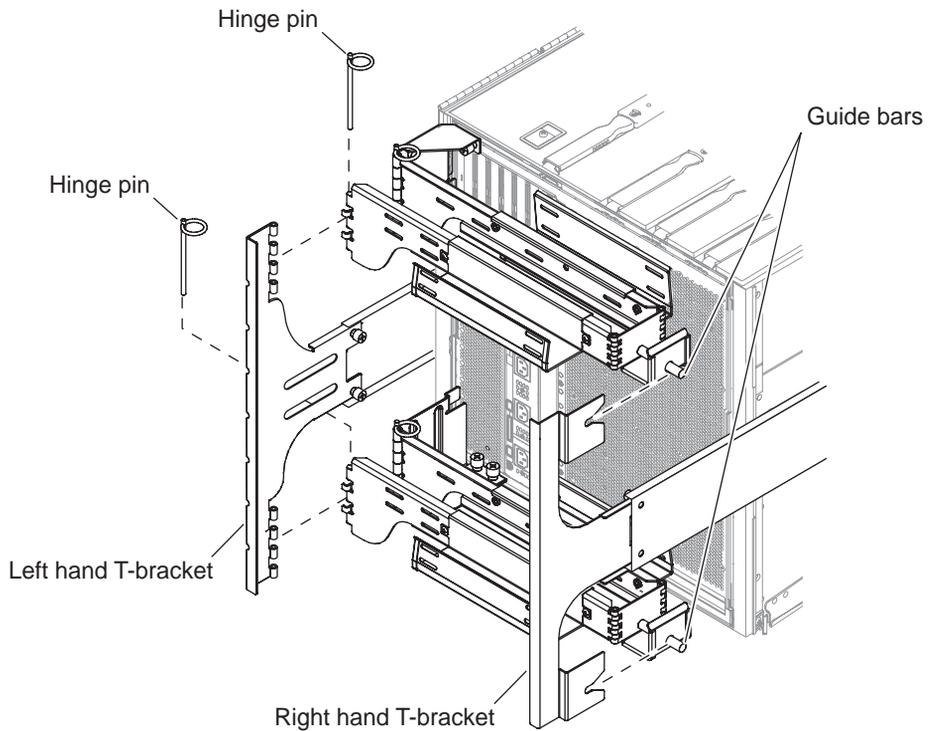

FIGURE 1-25 Attaching the Upper and Lower CMA Arms to the T-Bracket
8. Secure the upper CMA arm to the left-hand T-bracket using a single hinge pin (FIGURE 1-25).
9. Secure the lower CMA arm to the left-hand T-bracket using a single hinge pin (FIGURE 1-25).